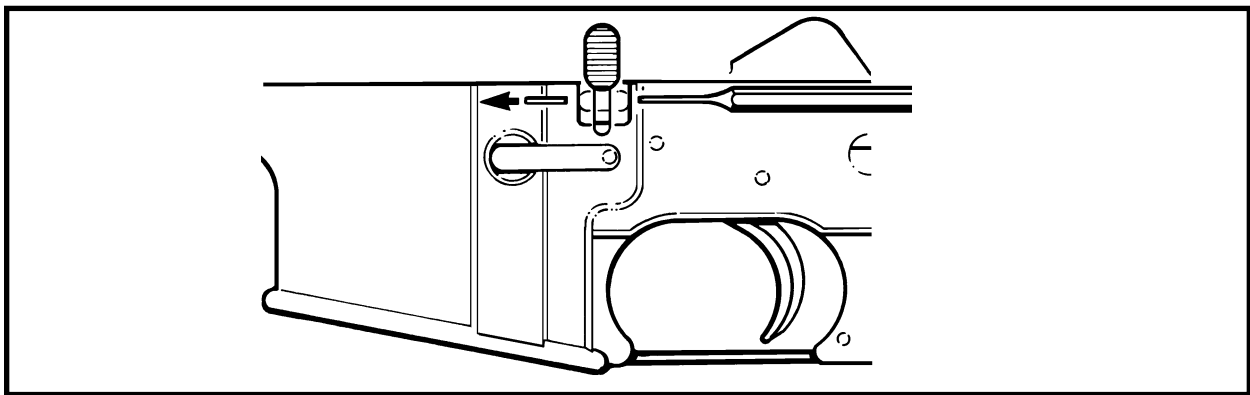

Figure 3-2-40 Removing the Bolt Catch Pin
- a. Remove the bolt catch pin with the special punch. See Figure 3-2-40;